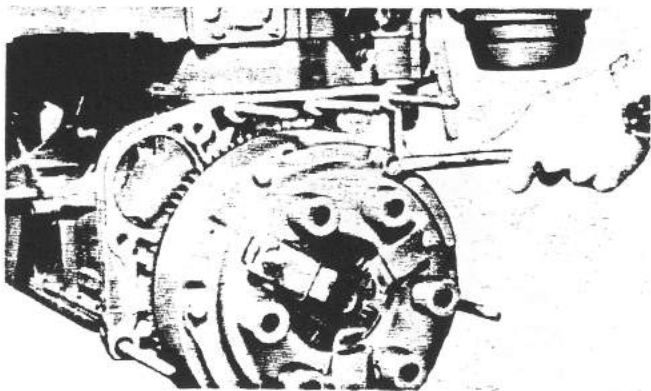

Fig. 25
- a. As shown in Fig. 25, remove 6 pcs. of screws and remove the clutch. Make sure that the removal order for screws should be diagonally done.